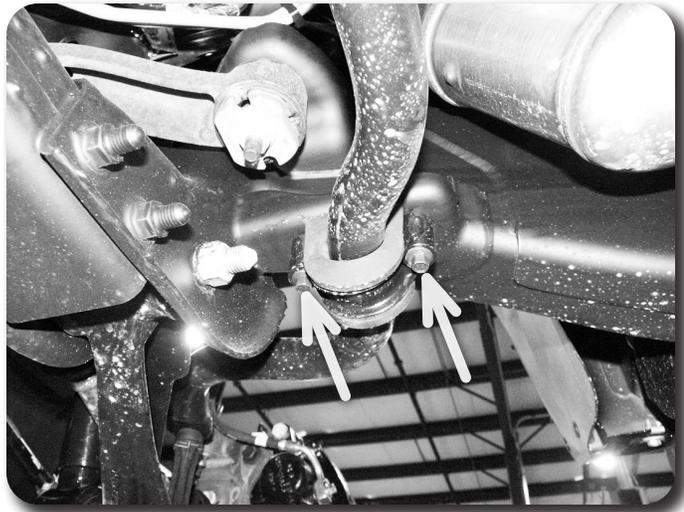

Figure 6
9. Mark the orientation of the sway bar and remove it from the frame by removing the four bushing cap mounting bolts Figure 6 Save all sway bar components.